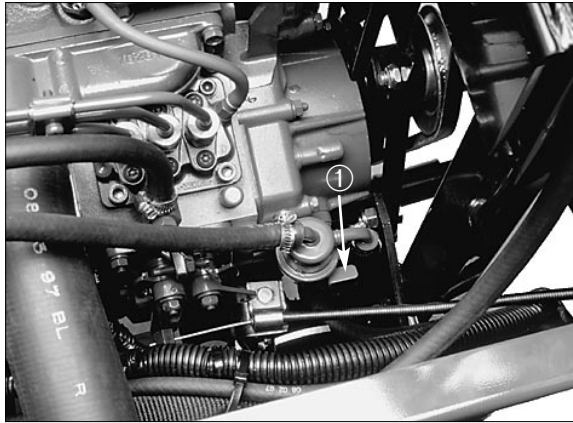

Figure 16
3. Pump the lever on the fuel pump (Fig. 16) until a solid stream of fuel flows out around the screw. Tighten the air bleed screw.
5. Pump the lever on the fuel pump (Fig. 16) until a solid stream of fuel flows out around the screw on the fuel injection pump. Tighten the air bleed screw.